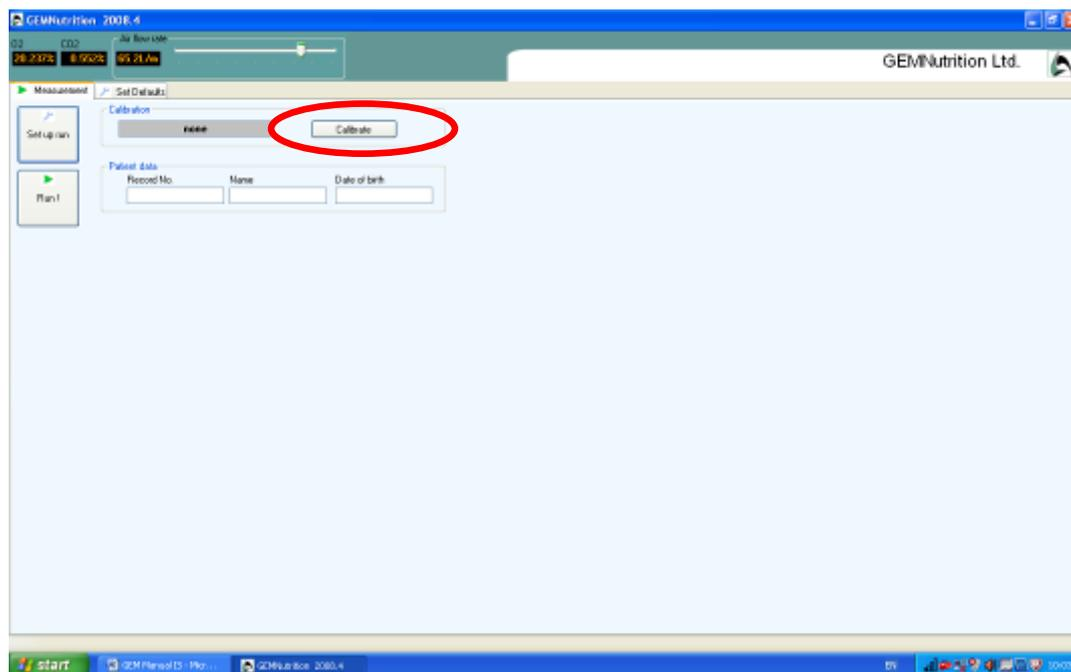

Figure 3. Select "calibrate".
3. Then click on "calibrate" (circled red in figure 3).